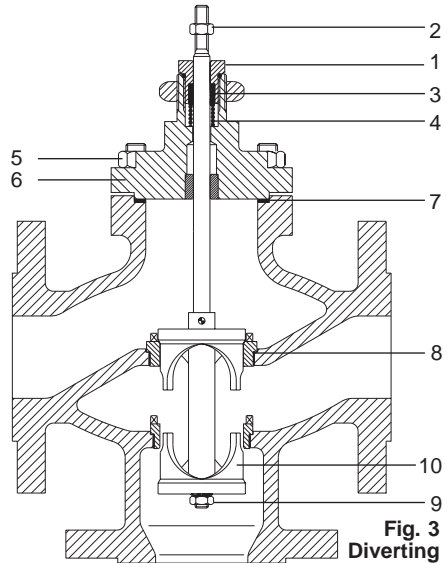

Fig. 3
1.2.2 Diverting valves (Fig. 3)